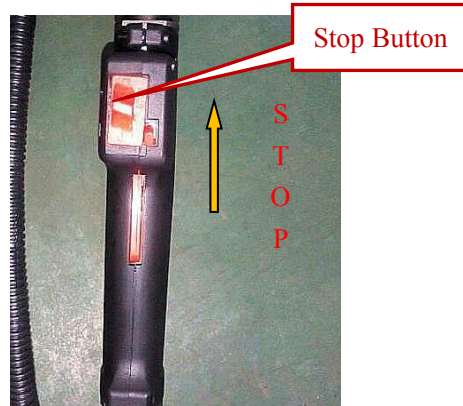

Fig 5
7.2 Pull **Stop Button** to the position of flameout. See the position of Stop Button in Fig.5.